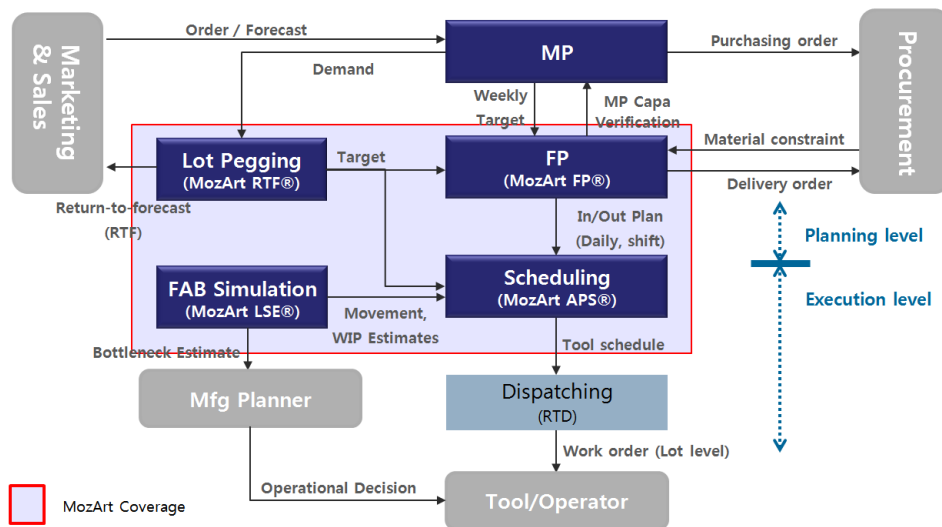

Figure 1: Coverage of planning & scheduling process by MozArt®
Typical FAB planning and scheduling process consists of master planning (MP), factory planning (FP), scheduling, and dispatching as shown in Figure 1 (Park et al. 2008). MP decides a weekly production target on which sales and manufacturing departments agree. FP determines daily FAB in and out plan which meets the weekly target. Scheduler generates tool schedule within which dispatcher selects a lot. MozArt RTF (return to forecast) equipped with backward planning engine provides the progress of each demand and generates step target through demand and lot pegging. MozArt LSE (loading simulation engine) fitted with forward planning engine is a what-if simulator which estimates moving and WIP trend (VMS Solutions 2013).